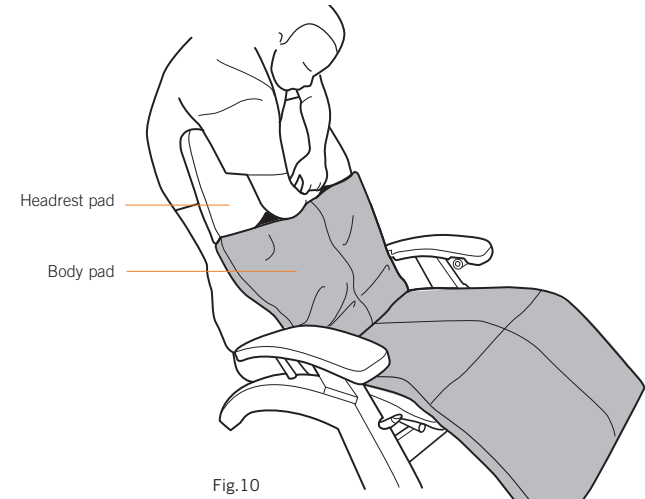

Fig.10
3. Tuck the flap on the top of the body pad up into the headrest pad and smooth the lower part of the headrest pad firmly flat to secure the hook and loop fasteners inside (Fig.10).